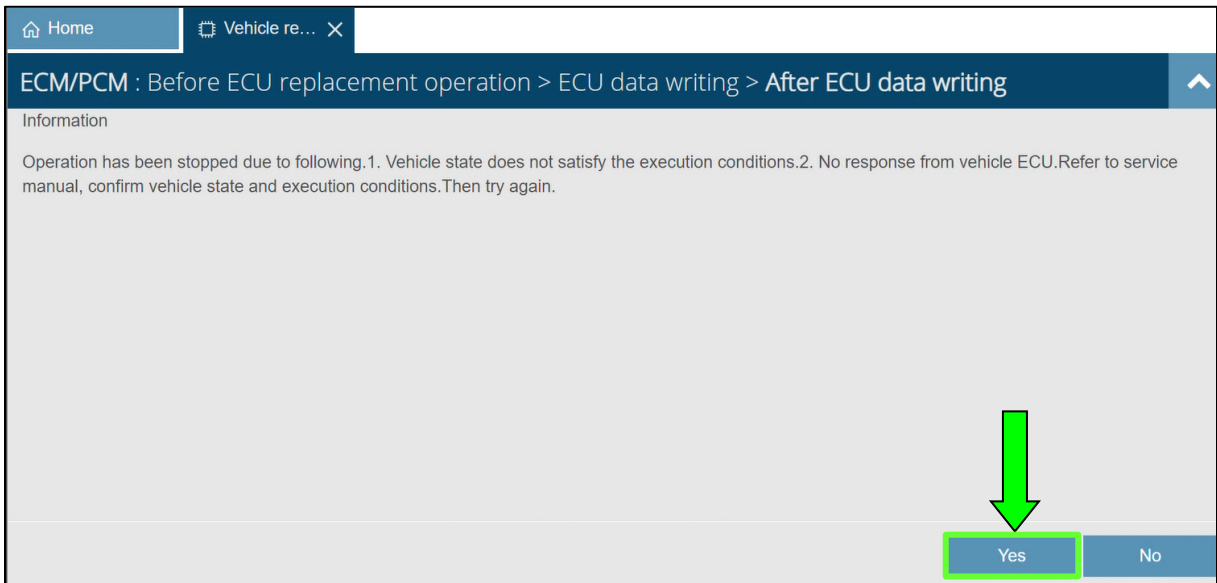

Figure 27
30. If the error shown in Figure 27 is present, select **Yes** and then reattempt IAVL once it is displayed.